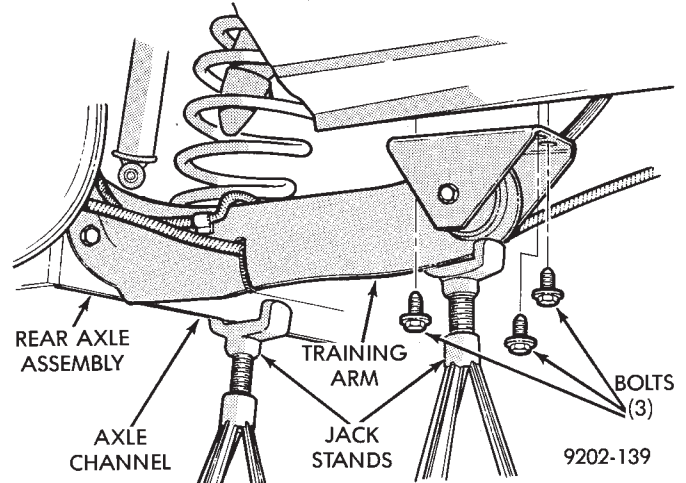

Fig. 12 Install Hanger Bracket on Frame
(4) Position hanger to frame rail (a suitable drift will aid in guiding hanger bracket into position). Install and tighten screws to 75 N•m (55 ft. lbs.) torque (Fig. 12). Install lower shock absorber mounting bolt, **but do not tighten.**